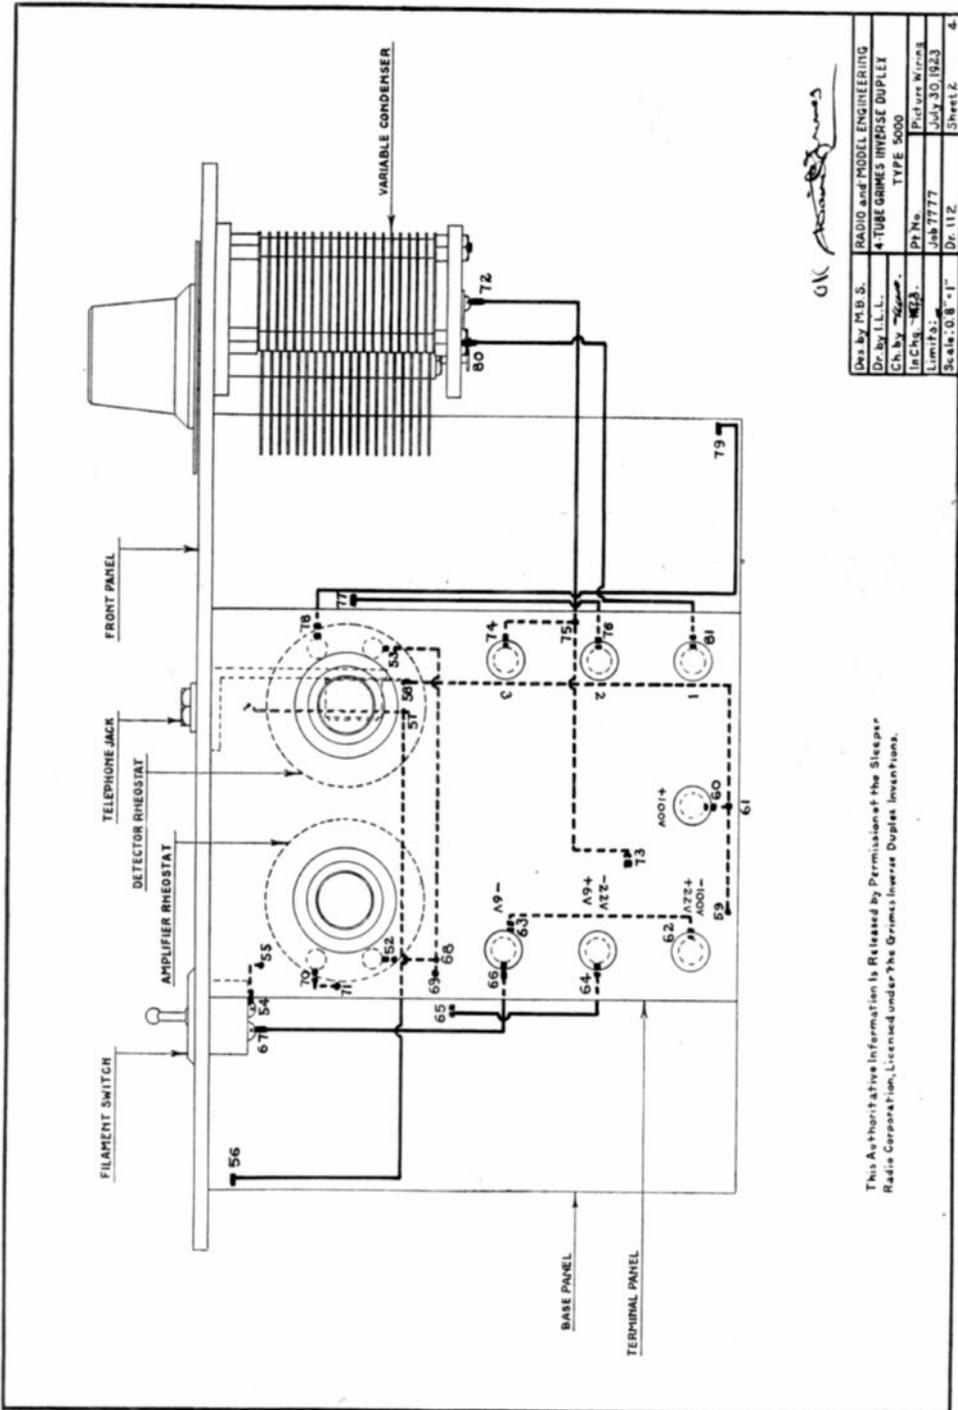

Fig. 9. The balance of the wiring, not shown in Fig. 8. Note that each of these drawings bears the O.K. and signature of Mr. David Grimes
In Fig. 8 is a schematic wiring diagram of the set to show the general plan of the connections. It gives the same circuit as the picture wiring diagram altho in details it may vary slightly. The picture wiring diagram is divided into two parts, Fig. 8 and Fig. 9. Fig. 8 shows the wiring of the parts mounted on the base panel while Fig. 9 gives the additional connections between the base panel and the front and terminal panel.
16. Mount the rheostats on the connection panel with the terminals in the positions indicated in Fig. 9.
20. Connect 54 to 55, 56 to 57, 58 to 59, and 72 to 73. These wires are shown in Fig. 9. Terminals 55, 56, 59, and 73 will be found on Fig. 8.
With the set ready for operating, put UV201-A tubes in the first two sockets at the left and the single socket at the right and a UV200 tube in the rear left hand socket. The Cunningham equivalents of these tubes, of course, be used interchangeably with the Radio Corporation types. Connect the A and B batteries to the binding posts on the terminal board according to the markings in Fig. 9 and connect on the loop antenna as previously directed. While 100 volts is specified for the amplifying tubes perhaps the most practical scheme is to use three of the large size Eveready B batteries connected in series. Then the negative terminal of the first battery must go to the minus 22-volt terminal, the first $22\frac{1}{2}$ -volt tap to the plus 22-volt terminal and the last positive binding post on the third battery to the plus 100-volt terminal on the set. Be sure to try out